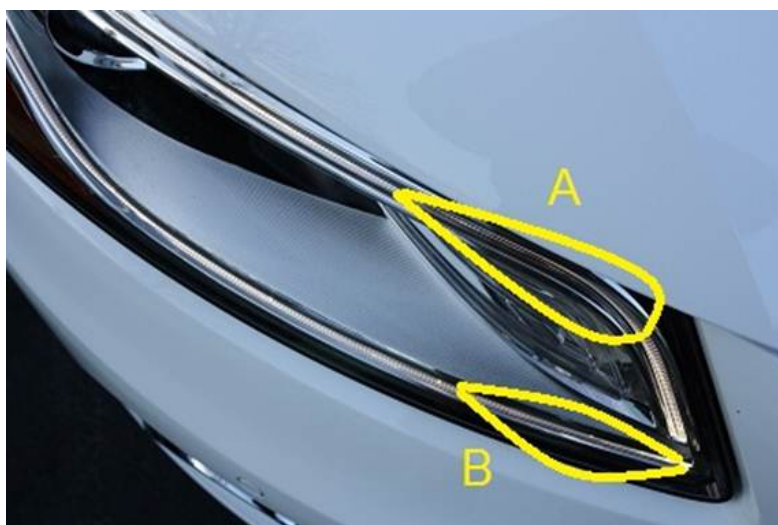

Figure 4. Upper light pipe perceived defect (A). Lower light pipe perceived defect (B).
- A defect may be perceived for top-down viewing angle (Figure 4).